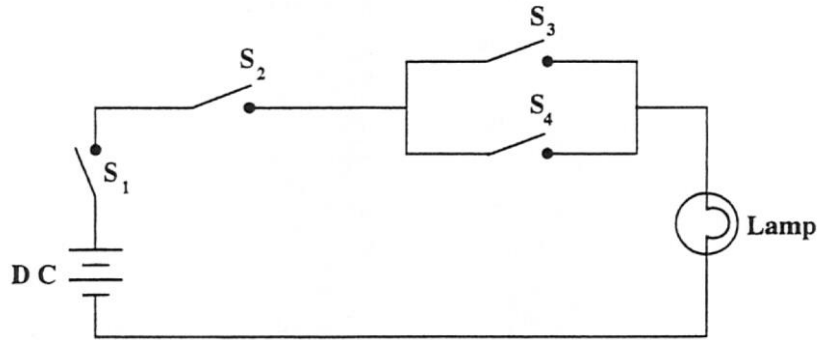

Figure 2
4. Figure 2 shows an electric lamp which is controlled by the switches S_1 , S_2 , S_3 and S_4 .